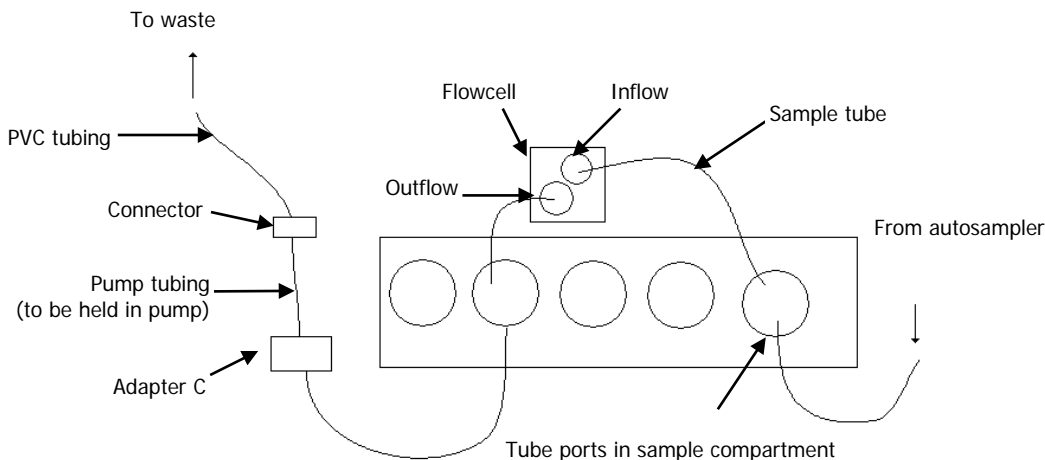

Figure 10 Tubing connections
7. Connect Adapter C (or Adapter B, depending on the pump tubing diameter) to the pump tubing and then connect the adapter to the outflow tubing (see Figure 10).